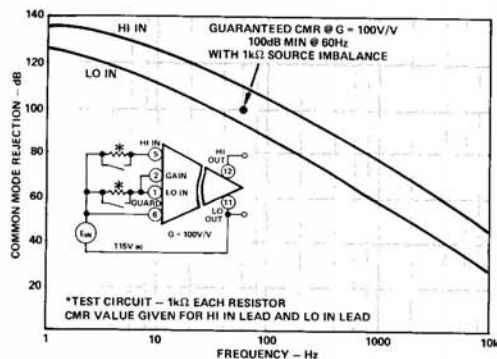

Figure 6. Typical Common Mode Rejection vs. Frequency
**Common Mode Rejection:** Input-to-Output CMR is dependent on source impedance imbalance, signal frequency and amplifier gain. CMR is rated at 115V ac, 60Hz and 1kΩ imbalance at a gain of 100V/V. Figure 6 illustrates CMR performance as a function of signal frequency. CMR approaches 130dB at dc with source imbalances as high as 1kΩ. As gain is decreased, CMR is reduced. At a gain of 1V/V, CMR is typically 12dB lower than at a gain of 100V/V.